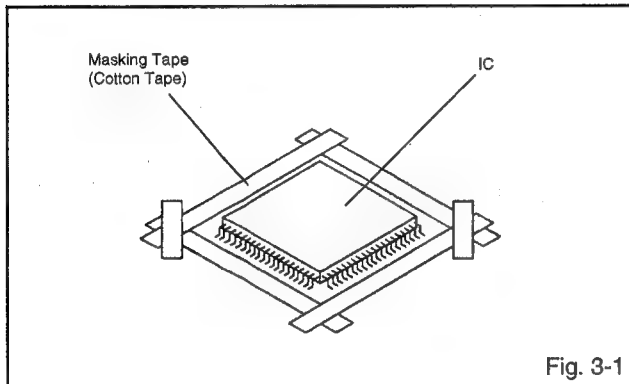

Fig. 3-1
1. Put the Masking Tape (cotton tape) around the Flat Package IC to protect other parts from any damage. (Refer to Fig. 3-1.)